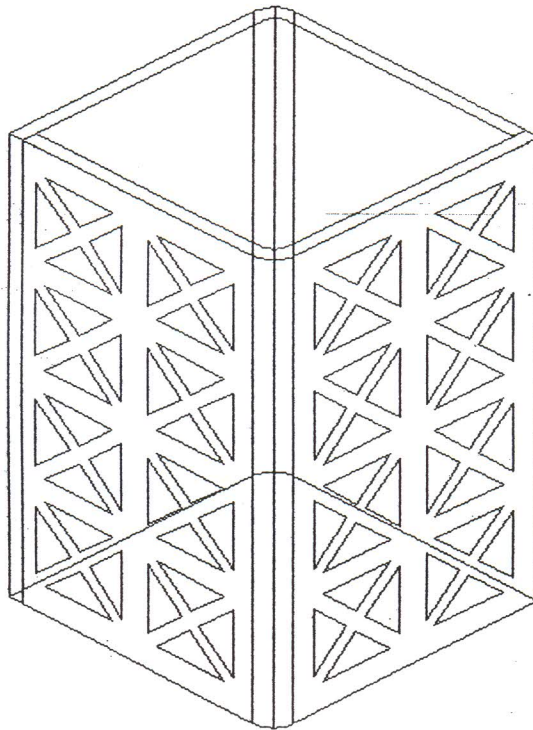

Figure 2: Cover Bracket
**INSTRUCTION: Answer ONE (1) question only.**
- (a) You are given a cover bracket in Figure 2. State and explain briefly the most appropriate fabrication process that you would do to complete the fabricating task of the Cover Bracket.